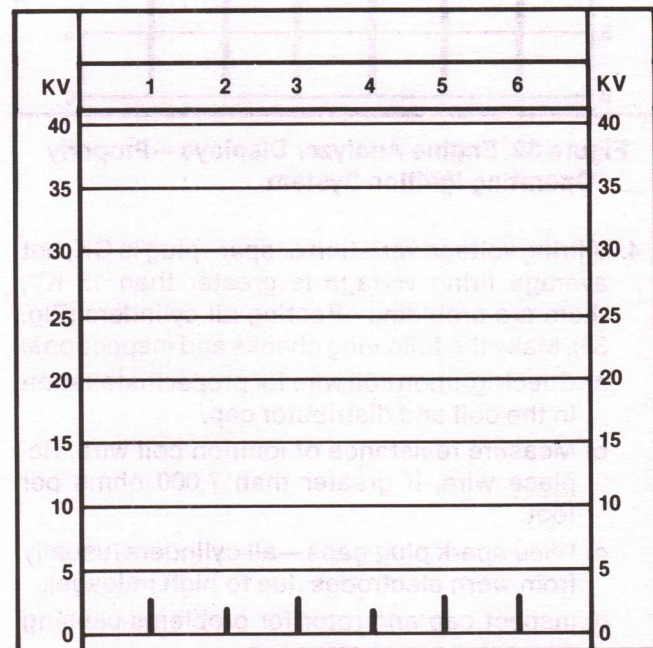

Figure 37. Engine Analyzer Displays—Negative Firing Voltage
8. If the spark plug firing voltage is negative (Fig. 37), the ignition coil primary circuit is reversed. Check the wiring harness to be sure the coil primary circuit is properly connected. If the harness is OK, replace the coil.